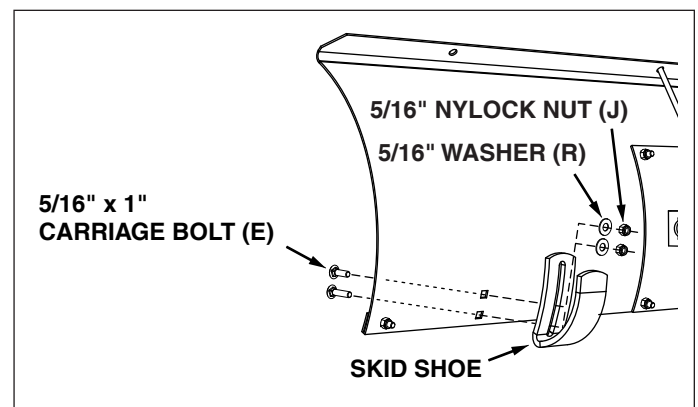

FIGURE 20 (Left Hand Side View)
40. Attach the skid shoes to the blade using two 5/16" x 1" carriage bolts (E), 5/16" washers (R) and 5/16" nylock nuts (J). Tighten the bolts with the skid shoes resting on the ground. See figure 20.
2. The blade shoes at the ends of blade may be raised for close work on smooth surfaces or lowered to raise the blade to work on rough or uneven areas. Make sure both shoes are set evenly and that the nuts are tightened securely. Refer to figure 20 on page 9.